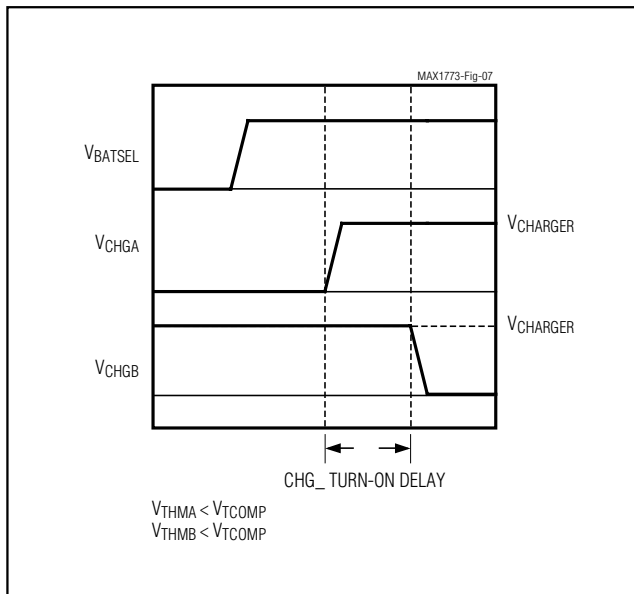

Figure 7. Charge Turn-On Delay (Battery A to Battery B)
**Note 11:** CHG\_ Turn-on Delay begins when VCHG\_ of the battery being switched from begins to rise and ends when VCHG\_ of the battery being switched to begins to fall (Figures 7 and 8).